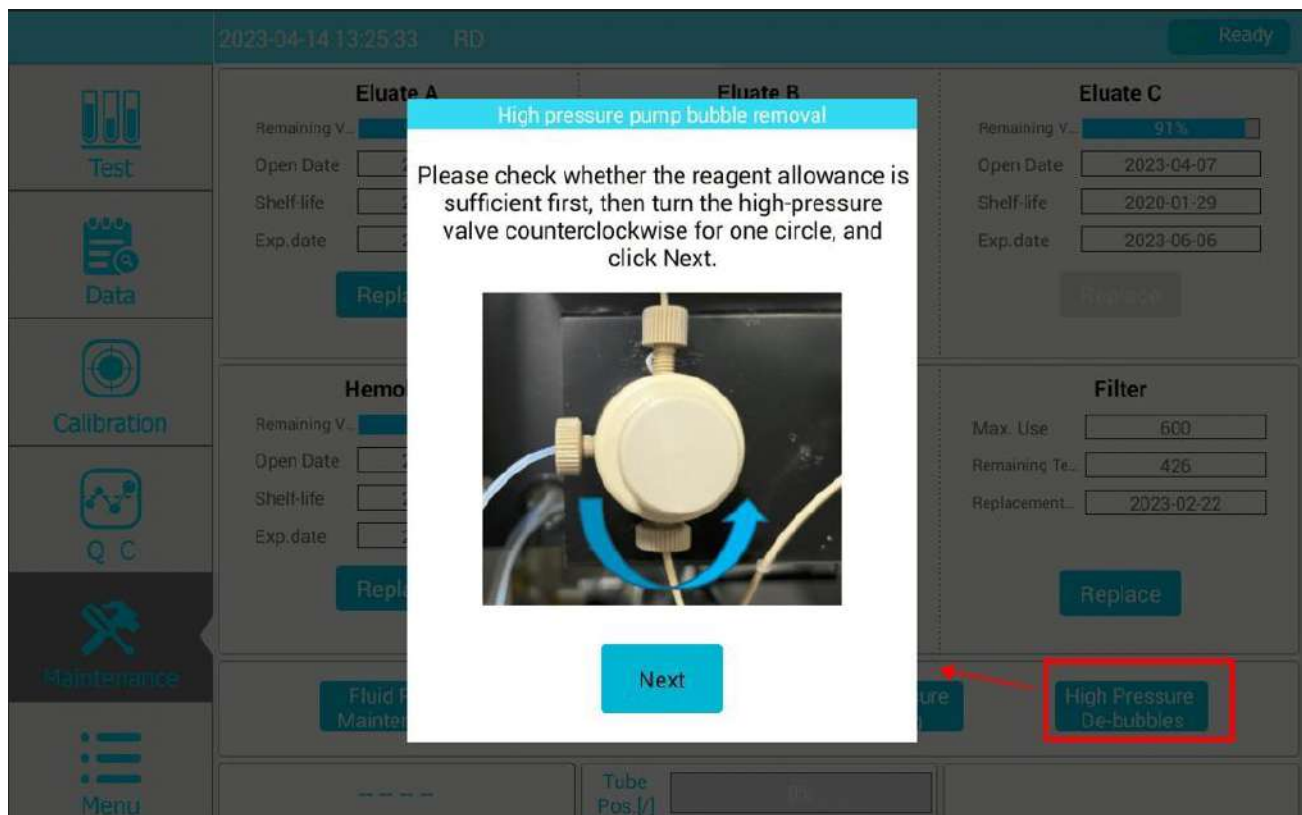

Figure 3-9 Unscrew the high pressure valve counterclockwise
2. High-pressure degassing (high-pressure priming): Click "High-pressure priming" on the maintenance interface > unscrew the high-pressure valve counterclockwise, click "Next" to perform high-pressure pump degassing > after degassing is completed, tighten the high-pressure valve clockwise, click "Next step", perform high-pressure perfusion> After the high-pressure priming is completed, the system will automatically perform a self-test. As shown in Figure 3-9, 3-10, 3-11, 3-12, 3-13.
Then, on the maintenance interface, click "High pressure de-bubbles" (Fig. 3-9), and follow the instructions on the software interface to complete the process of air removal by the high pressure pump.
- Note: 1. When the Eluent ABC is empty, the instrument will alarm and display that the pressure of the high-pressure pump is too low, and air bubbles need to be removed, click the red fault bar in the lower right corner of the screen, select the fault, and then click fault repair, the instrument will automatically jump to the interface shown in Figure 3-9 , and continue to follow the prompts.